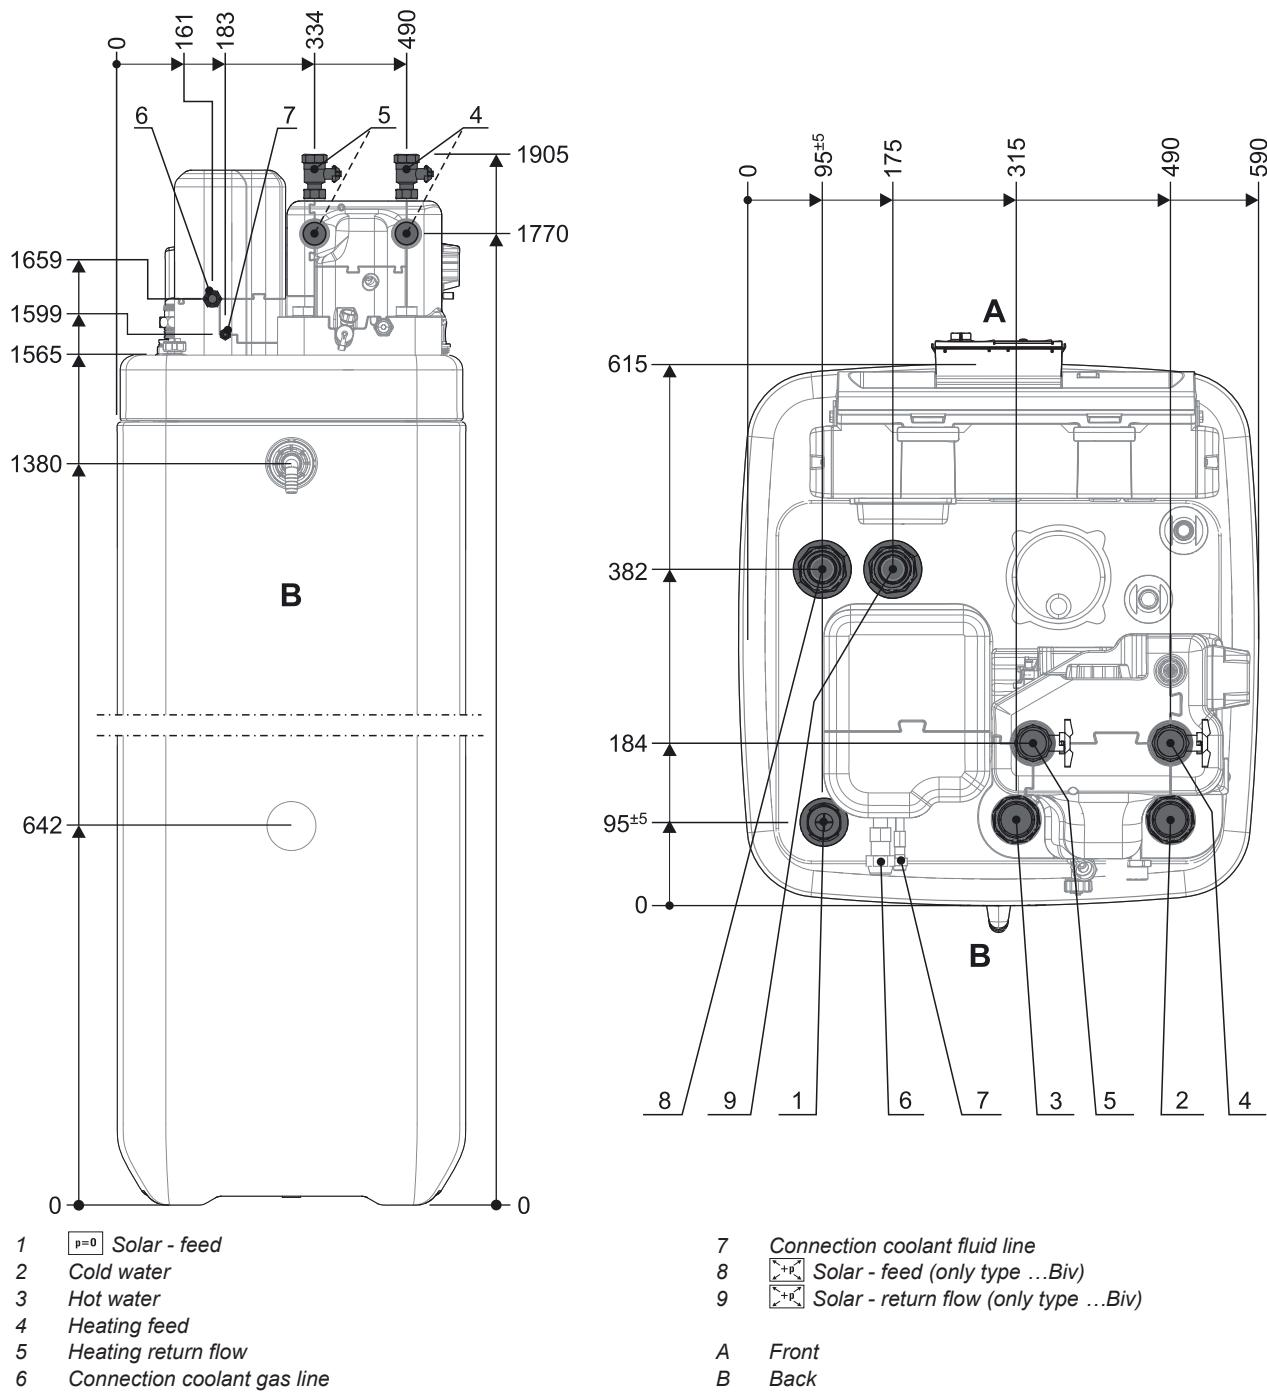

Fig. 4-1 Connections and dimensions ROTEX HPSU compact 304/308 (in general)
If the **heat exchanger** for charging the **pressurised solar system** (fig. 4-1 / fig. 4-2, item 8+9) has an **external heating unit** (e.g. wood-burning boiler) connected to it, an excessive flow temperature at these connections can damage or destroy the ROTEX HPSU compact.